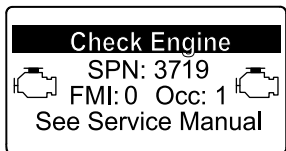

Figure 54
- Engine warning SPN 3719, FMI: 0 (Figure 54)